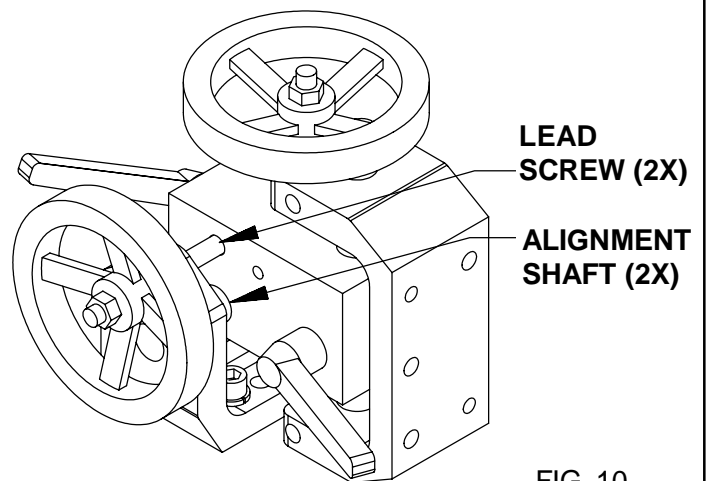

FIG. 10
6. Wipe and relube with never-seez, the vertical and horizontal alignment shafts and lead screws, every six months. See FIG. 10.